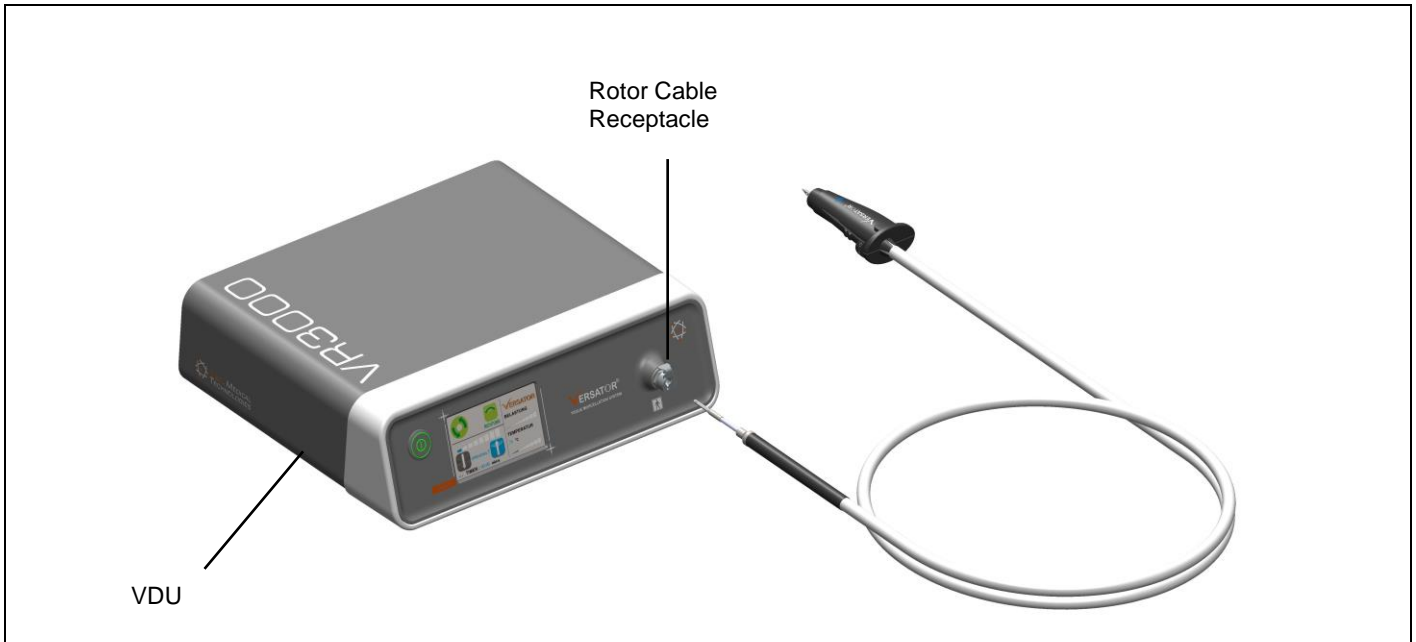

Figure 14: Connecting Rotor Cable to the VDU
- 5.2.1.2 Connect the Rotor Cable to the VDU. (Figure 14).
- 5.2.3.3 Connect the Rotor Cable to VERSATOR® VDU (See Figure 14)